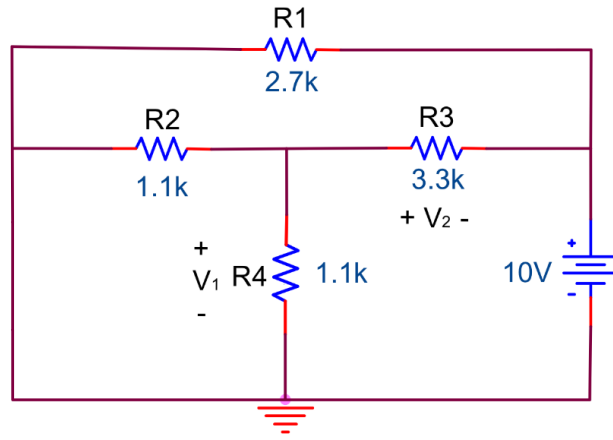

Figure 6.6
3. For Figure 6.6 calculate V_1 and V_2 .